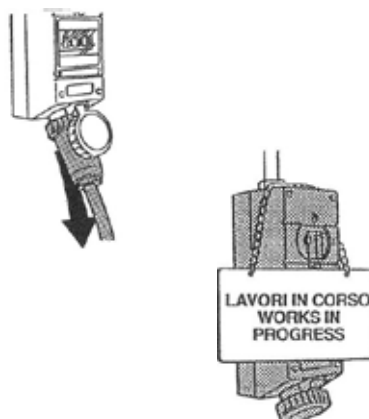

fig.150
19. Disconnect the power at the line disconnector and signal that work is in progress. (fig.150)